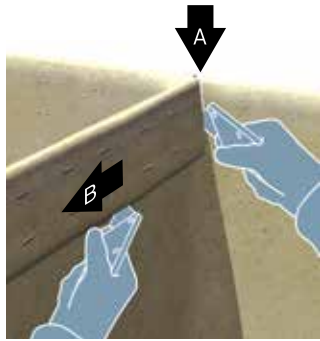
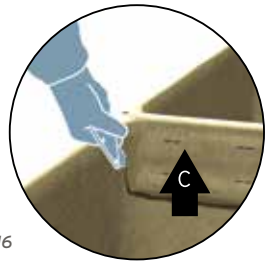

Figure 15
Figure 16
Make a 3" (75mm) vertical cut in the liner from the top corner downward (A), as shown in Figure 15, stopping at the stapled flap corner. Turn the knife 90 degrees and continue cutting the liner just below the stapled flap (B). Cut to the opposite corner, turn the knife again and cut upwards to finish separating the cells (C), (Figure 16).